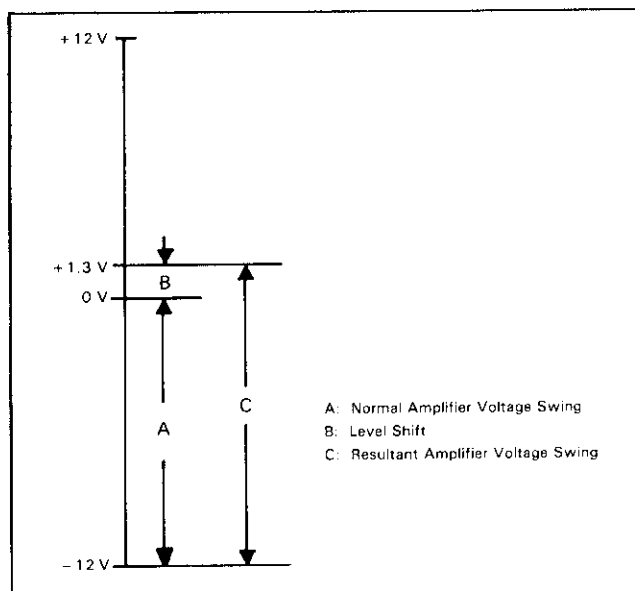

Figure 8-29. Level Shift for Low Ohms Offset Circuit.
8-134. Figure 8-29 and 8-30 illustrate how this circuit operates. The negative voltage swing at the output of the Input Amplifier is normally between 0 V and -12 V (A). The low ohms offset circuit level shifts the dc reference at the amplifier output from 0 V to $+1.3$ V (B) which increases the amplifier voltage swing range from 12 V (A) to 13.3 V (C). This is done by moving the bottom of, part of the U200 resistor divider from ground to -12 V_A.